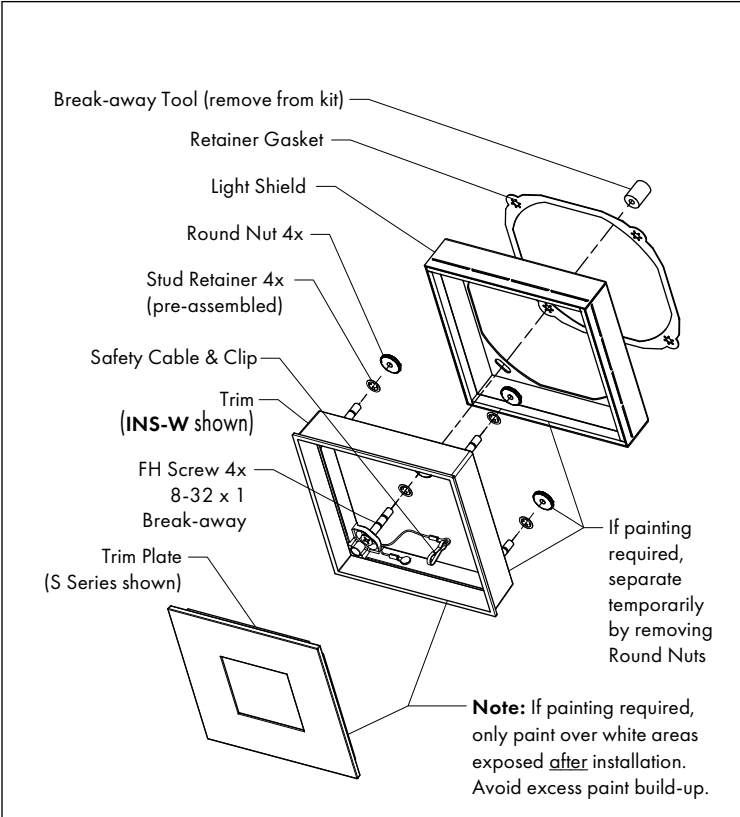

FIG 10.1 Trim Kit Assembly
- STEP 3** If painting is required, temporarily separate Light Shield & Retainer Gasket from Trim Kit & paint Trim & Trim Plate (see note in **FIG 10.1**).
- STEP 4** Before installing, rough adjust Trim Kit height to approximate ceiling-to-Housing depth. Use Screws & Round Nuts to set rough height of Trim - **FIG 10.1 & 10.2**.